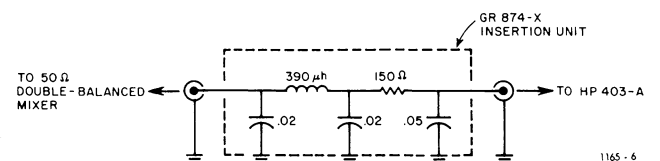
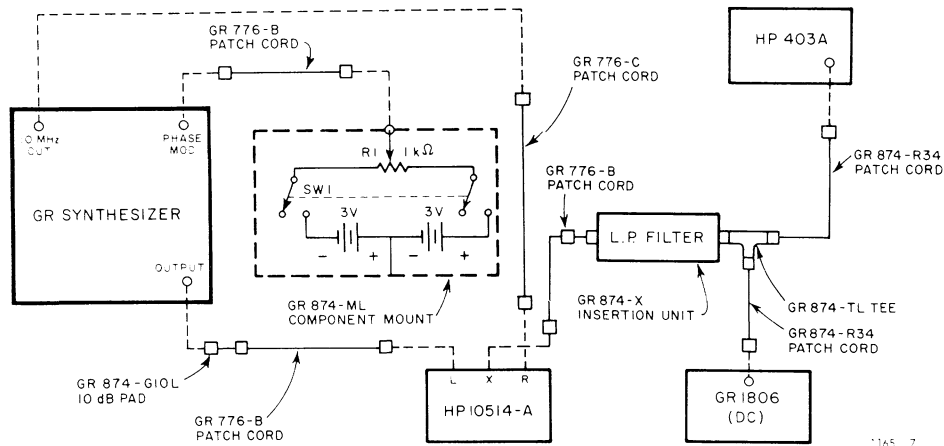

Figure 5-4. Low-pass filter (15 kHz).
Figure 5-5. Phase- and amplitude-noise modulation measurement setup.
Phase-noise modulation is not critically dependent on the output frequency. It can be measured by using the rear-panel 10 MHz OUT signal to check the synthesized output at 10 MHz. Figure 5-5 shows the recommended setup for measuring both phase and amplitude noise modulation of the synthesizer OUTPUT. The HP 10514-A Double-Balanced Mixer output must be fed through a 15-kHz low-pass filter (Figure 5-4) to comply with specifications. The shielded  $\pm$ 3-V battery and potentiometer, feeding the rear-panel PHASE MOD input, permits relative phase adjustment of the output and reference sources. The noise meter must have sufficient sensitivity to measure at least 65 dB down from the calibrate level, which is approximately 250 mV in the setup shown.
For minimum effects from stray capacitance and magnetic fields, the filter circuit and the battery-potentiometer circuit (shown in Figure 5-5) should be mounted in shielded enclosures. The GR 874-X Insertion Unit (P/N 0874-9990) is recommended as a convenient mounting device for the former and the GR 874-ML Component Mount (P/N 0874-9663) is suitable for the latter. Mount the 1-k $\Omega$
Make the connections as shown in Figure 5-5. To calibrate the phase- and amplitude-noise modulation measuring system, set the frequency dials to read 10,001,000 Hz† and adjust the OUTPUT level control to produce a convenient reference indication on the noise meter, such as -10 dB.
- b. Set SW1 (Figure 5-5) to the closed position.
- c. Adjust R1 (Figure 5-5) for 0-V dc out of the mixer.
- c. Set SW1 (Figure 5-5) to the closed position.